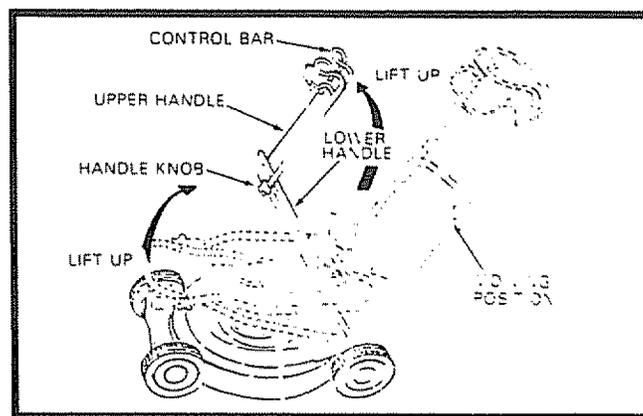

FIG. 1
- Raise Upper Handle section until it is in-line with Lower Handle and tighten one Handle Knob (See Fig. 1).